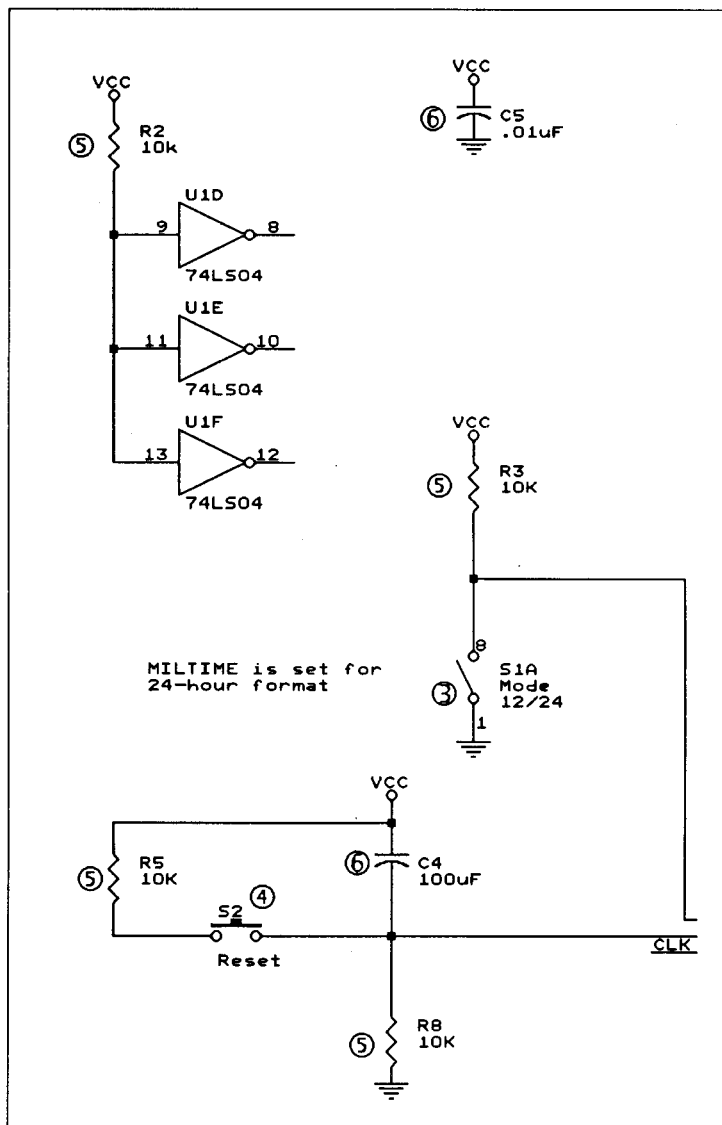

Figure 6-8. Switches, resistors, and other parts to be placed. The callouts refer to the step numbers in this section.
Four resistors, three inverters, two capacitors, two switches, and several power and ground symbols are needed to complete the logic and display circuit schematic. Figure 6-8 shows the arrangement of these parts.
Refer to figure 6-8 as you follow these steps:
3. With the part selected and the outline showing on the screen, select **Rotate** to turn the part so the orientation matches that shown in figure 6-8. Move the part to location (2.70, 6.00) and place it.